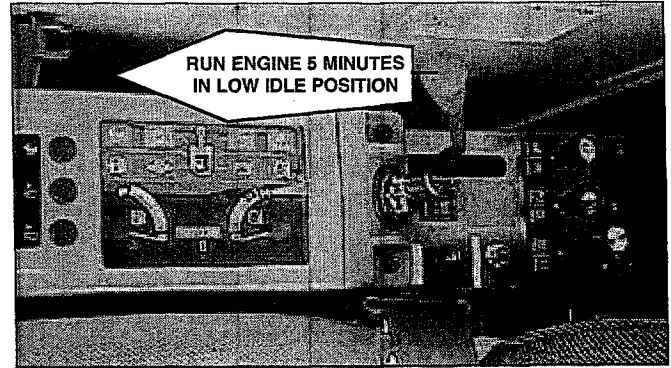

FIGURE 3.15
1. Allow the engine to run for 5 minutes under no load conditions with Throttle Control at low idle position. See Figure 3.15.